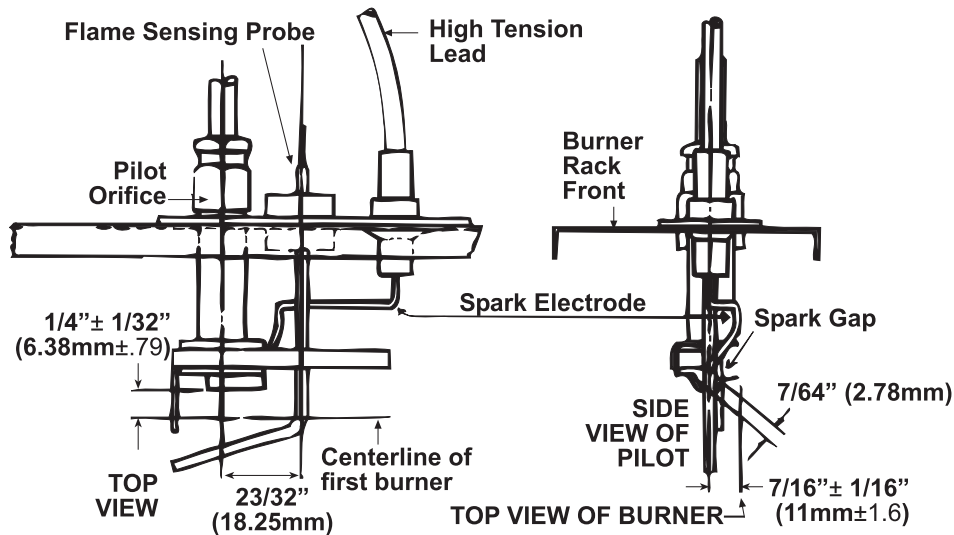

Figure 24. Pilot Assembly Spark Gap
4. Check the spark gap (see Figure 24), which should be maintained to 7/64 inch.
- c. Verify that pilot spark gap (see Figure 24) is approximately 7/64 inch.